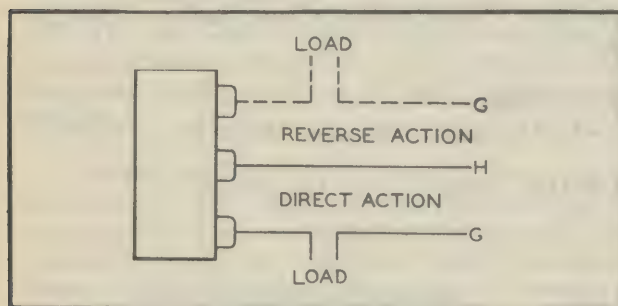
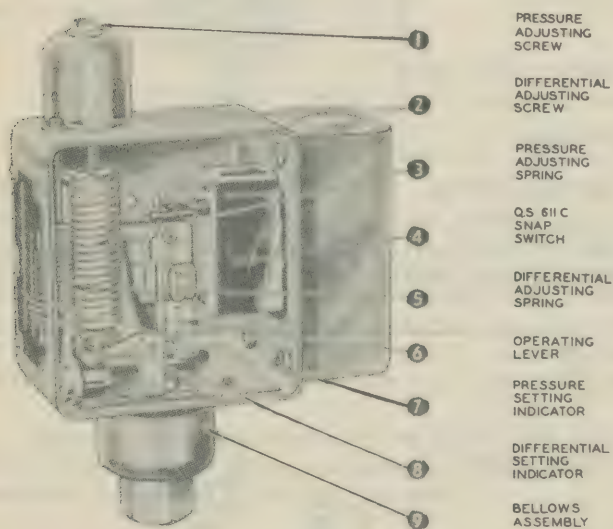

Fig. 2—L404F Connection Diagram.
Fig. 3—Type L404F Pressuretrol.
**Wiring** - Connect as shown in Fig. 2 to open a circuit on pressure rise. For reverse action (to close circuit on pressure rise) remove sticker and connect to upper and middle terminals.
**Direct-acting connection.** When wired as shown in solid lines in Fig. 2 set the pressure setting indicator No. 7 at the cut-in pressure desired by means of pressure adjustment screw No. 1, Fig. 3. Set the differential setting indicator No. 8 for the desired differential by means of